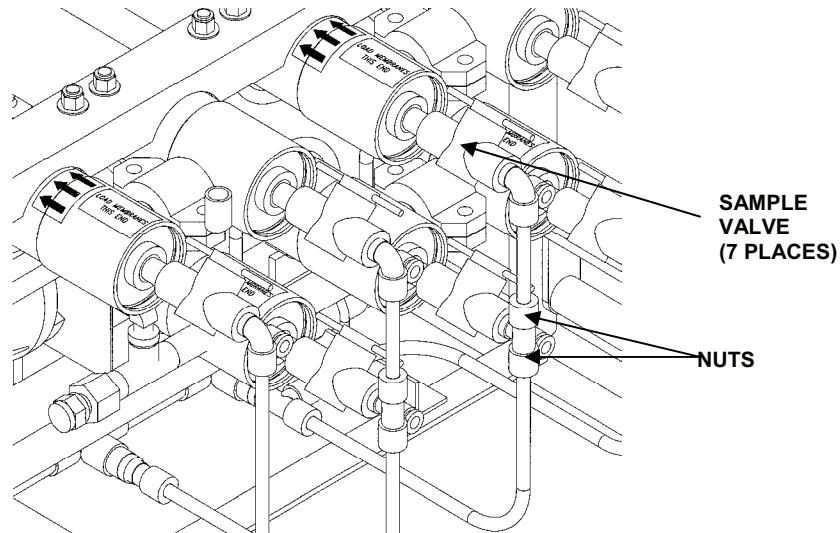

Figure 8. Sample Valve Installation.
2. Reinstall the sample valve into end cap. See Figure 8.